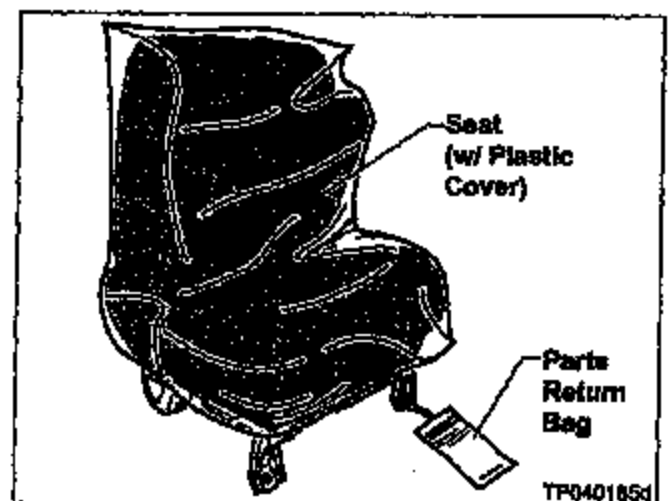

Figure 10
16. Attach the Parts Return Bag (with the filled out Seat Inspection Form in it) to the Passenger Front Seat lower frame (see Figure 10).